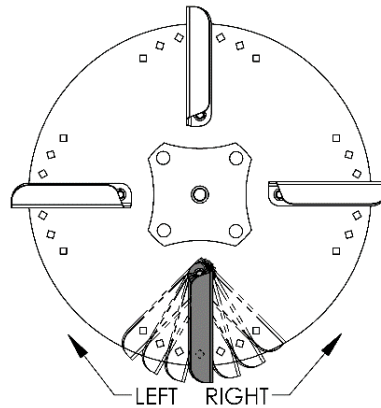

FIGURE 15.1
- The adjustable Fins will let you fine tune the spread pattern. Move the Fins in the direction that you want more material to be applied(e.g. If the material is spreading too heavy to the left then move the Fins to the right for the spread to become heavy on the right). See **FIGURE 15.1**.